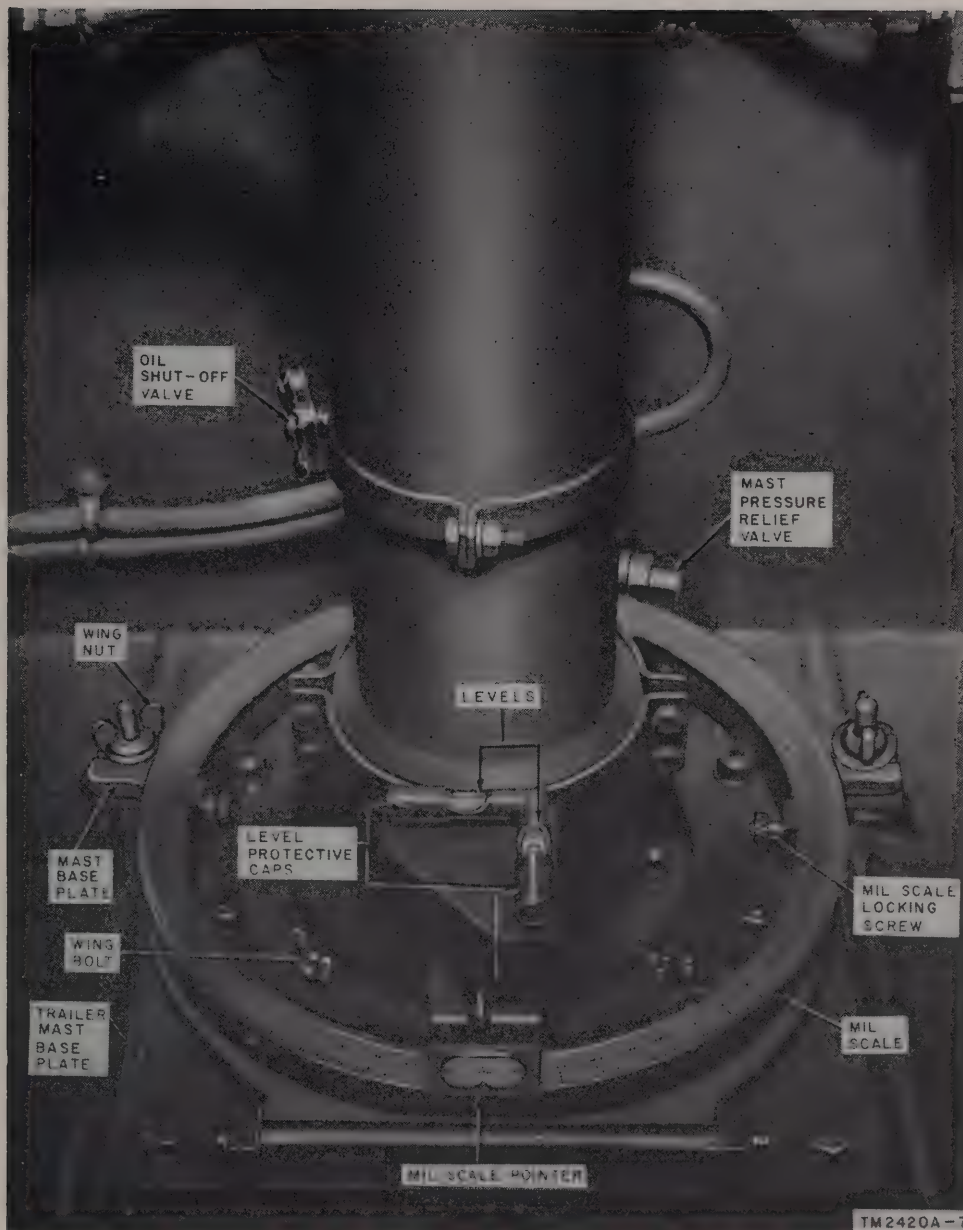

Figure 7. Base of mast assembly.
c. Loosen the two wing nuts attached to the trailer mast base plate eyebolts (fig. 7) and lay them flat.
a. If the two levels at the base of the mast (fig. 7) are not parallel with the front and side of the trailer, respectively, loosen the four wing bolts inside the mil scale on the mast base. Turn the mast until one level is parallel with the front and the other level is parallel with the side of the trailer.
a. Loosen the four wingbolts (fig. 7) at the mast base plate. This permits the mast assembly to be easily rotated.
d. Loosen the mil scale locking screws (fig. 7). Rotate the mil scale until the 0 position is beneath the tip of the mil scale pointer.